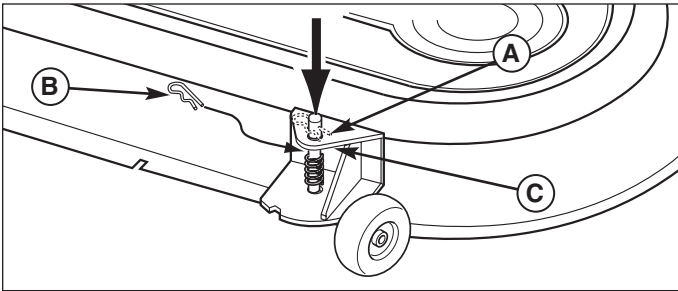

Figure 45. Gauge Wheel Adjustment
1. Remove the hair pin clip (A, B, Figure 45).
2. For upper position, install the pin (A) through the spindle above the bracket (C). For the lower position, push down on the top of the spindle, and install the hair pin clip (B) below the top of the bracket (C).